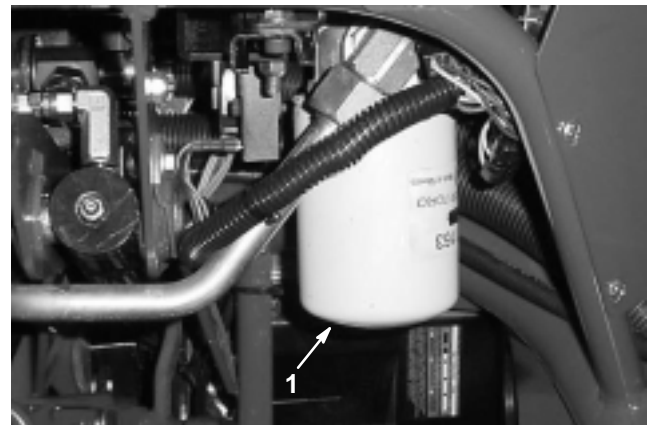

Figure 49
1. Clean the area around the filter mounting area (Fig. 49). Place a drain pan under the filter and remove the filter.